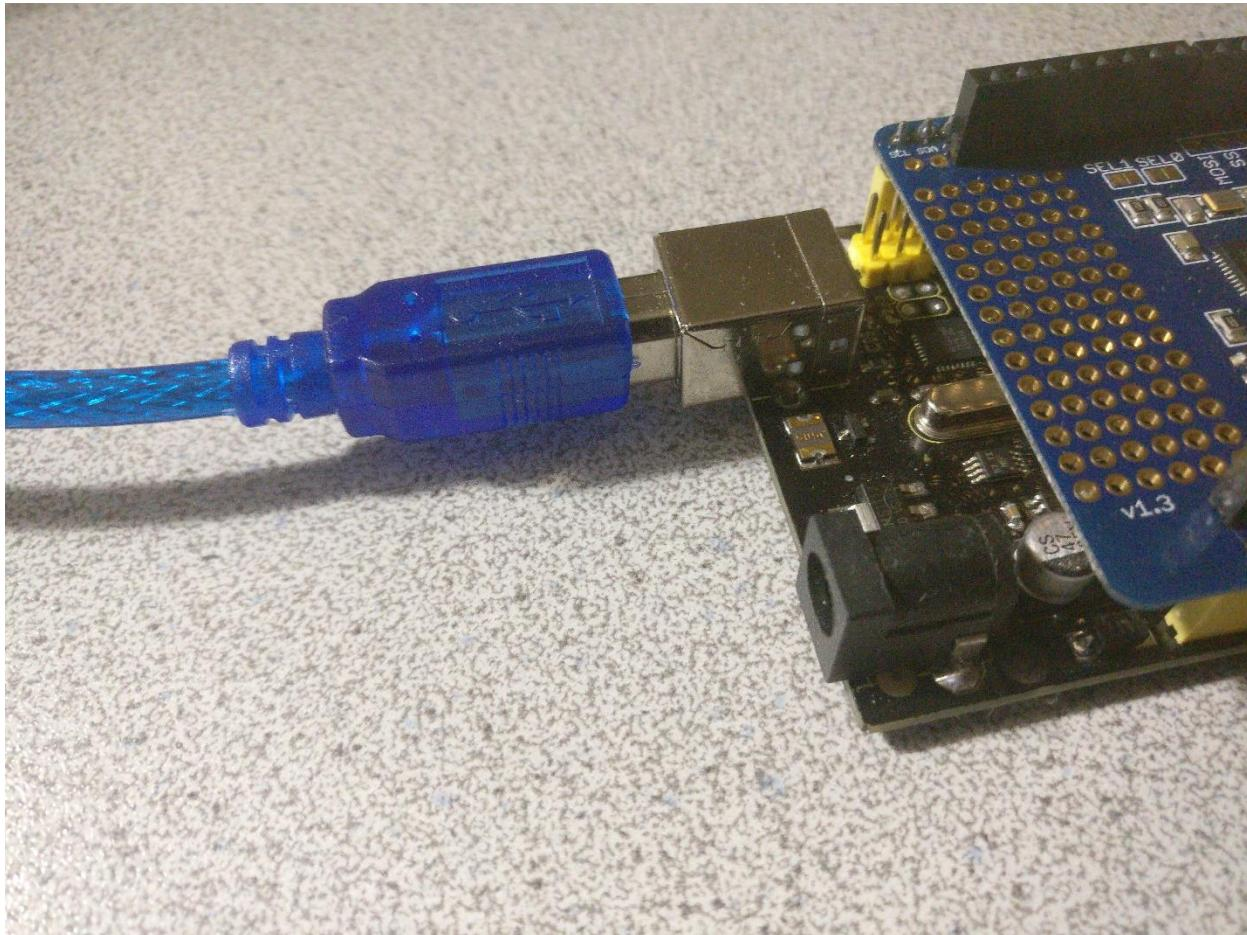

Figure 5-5 – USB-B cable connected to Arduino Uno
3. Plug the USB-B end of the included cable into the Arduino. Refer to Figure 5-5 for an example of what the cable should look like plugged into the Arduino.